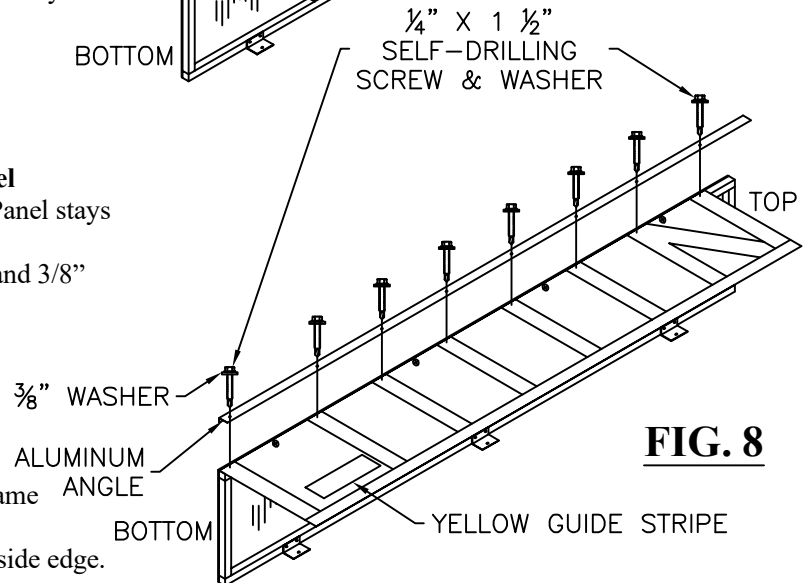

FIG. 8
- Match holes** in Aluminum Angle with holes in Vertical Panel stays (Figure 8).